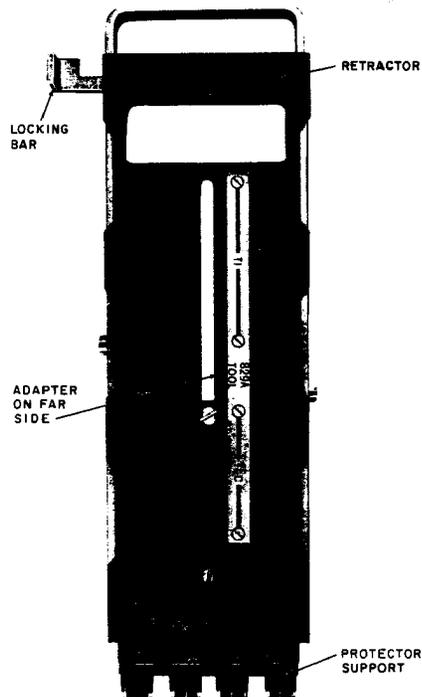
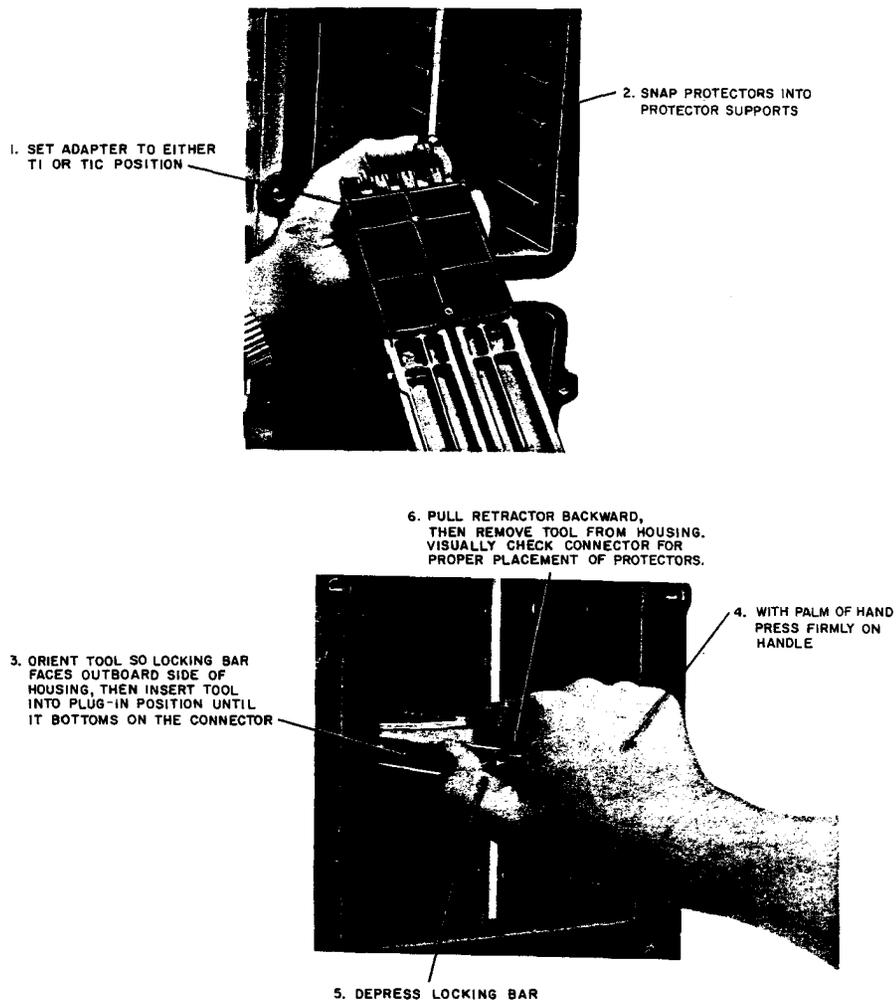

Fig. 41—829A Tool
Fig. 43—Installation of Protectors
9.02 Remove the 200A protectors (gas tubes) using 829A tool (Fig. 41) as follows (Fig. 42):
9.03 Install 200A protectors within each repeater and maintenance unit plug-in slot using an 829A tool (Fig. 41) as follows (Fig. 43):